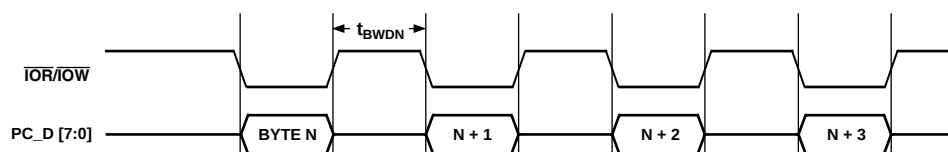

Figure 15. Codec Transfers
After setting format bits, sample data into the AD1816A must be ordered according to Figure 15, Table VI.
CFMT [1:0] (RW) Capture Format. Use these bits to select the format for capture data according to the following Table VI and Figure 15.